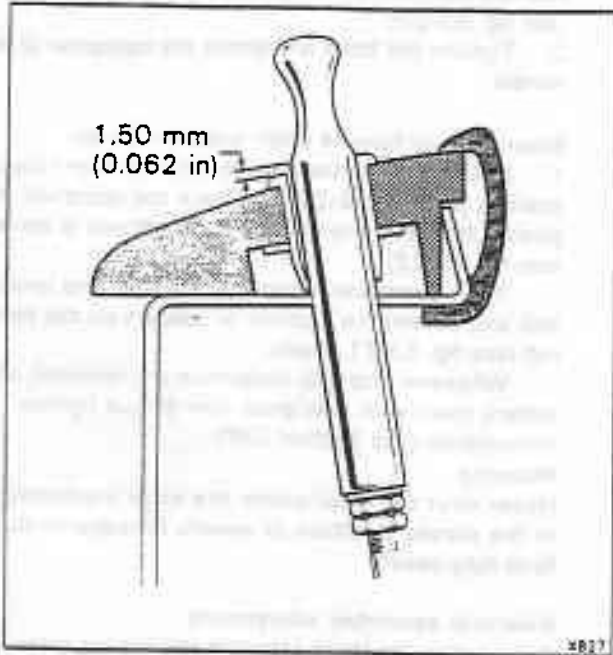

Fig. S3-24 Setting the sill control button
8. Check that there is approximately 1.50 mm (0.062 in) of the sill button showing below the neck when the button is in the locked position (see fig. S3-24).